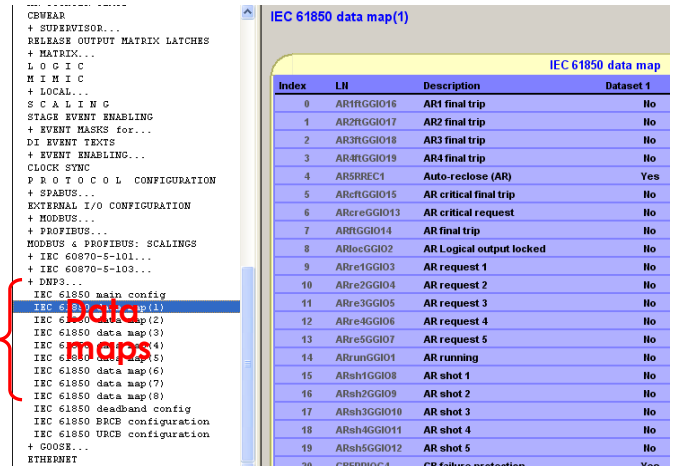

Figure 2.2-1 IEC 61850 configuration menus in VAMPSET.
The Logical Nodes (LN) to be visible via the IEC 61850 interface are selected in "IEC 61850 data map (1)"... "IEC 61850 data map (8)" (see figures 2.2-1 and figure 2.2-2).